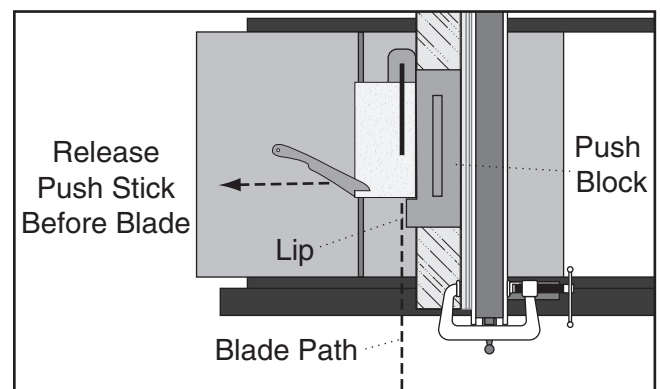

Figure 103. Ripping with push block.
6. Guide the workpiece the rest of the way through the cut with the push block, as shown in **Figure 103**.